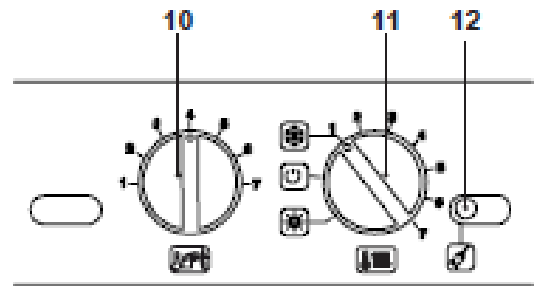

Figure 12.23
- Before powering the boiler, turn knobs 10 and 11 as shown in Figure 12.23
- To set the boiler to function with the thermostat, access programming by pressing the rest button 12 in figure 12.23 for 10 seconds, until parameter P01 appears on the LCD display; the following will appear on the LCD display (the sequence P01 alternates with -- -- --).
- Press the reset button 12, in Figure 12.23 multiple times to scroll the various parameters, until reaching parameter P03, which is used to check the operation of the tank with a thermostat.
- To set operation with the NTC probe, access programming and hold down the reset button 12 in Figure 12.23 for 10 seconds until parameter P01 appears on the LCD display; (the sequence P01 alternates with -- -- --).
- Press the reset button 12, in Figure 12.23 multiple times to scroll the various parameters, until reaching parameter P03, which is used to check the operation of the tank with an NTC probe.
- The value that is displayed on the LCD is 04, turn the boiler knob 10 in Figure 12.23, to the minimum setting.
The following table shows the correlation between the boiler knob setting 10 in Figure 12.23 and the displays shown on the LCD for parameter P03.
Press the reset button 12 to access programming P04, the starting value shown on the LCD is 04, turn the boiler setting knob 10 in Figure 12.23 to the setting 4, the value shown on the LCD display is 04.
The following table shows the correlation between the boiler knob setting 10 in Figure 12.23 and the displays shown on the LCD for parameter P04.